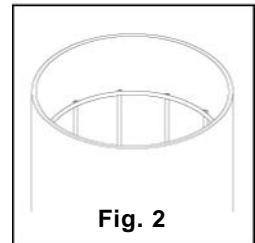
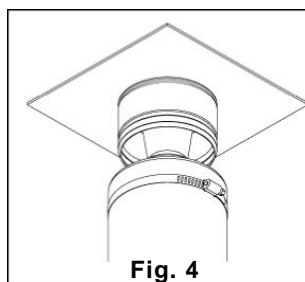
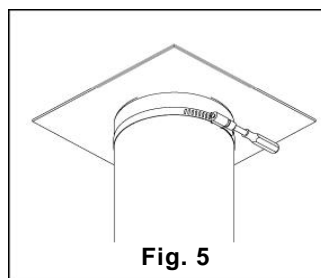

Fig. 2
Fig. 4
Fig. 5
3. Fold the top of the bag (about 2 inches) over the top edge of the cage. Smooth out the inside folds and make sure that the bag does not overlap the annular ring on the inside of the cage. If necessary, trim any excess bag length. (See Fig. 2)
5. Starting at the far side of the collector, slide the bag and cage assembly upward over the bag cup until the cage snaps into place on the groove in the bag cup. The bag & cage assembly should fit snug against the tube sheet for proper alignment. (See Fig. 4)
6. Tighten the bag clamp until the bag and cage assembly does not rotate. (See Fig. 5)
NOTE: It is important to use a 3/8" socket. A screwdriver may slip off the bag clamp and accidentally puncture the bag. (See Fig. 5)
2. The bag cuff has two sewn-in spring steel bands. (See Fig. 2). Collapse the cuff inward onto itself (See Fig. 3) and into a "U" shape and lower the bag (See Fig. 4) until one of the bands is below the tube sheet (See Fig. 5) and the other above. Then, let the cuff spring back to its original shape. (See Fig. 6) Smooth the cuff around the hole. The cuff should form a perfect seal at the tube sheet.